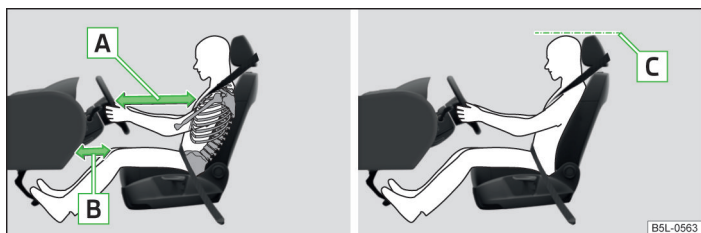

Fig. 135 Correct driver seating position / properly adjusted headrest
- Position the steering wheel so that there is a gap of at least 25 cm between the steering wheel and the chest [A] » Fig. 135, and that the distance between the legs and the dash panel at the height of the knee airbag is at least 10 cm [B].
- Adjust the head restraint so that the top edge of the head restraint is at the same level as the upper part of your head [C] » Fig. 135 on page 162.
- Adjust the head restraint so that the top edge of the head restraint is at the same level as the upper part of the head [C] » Fig. 135 on page 162.